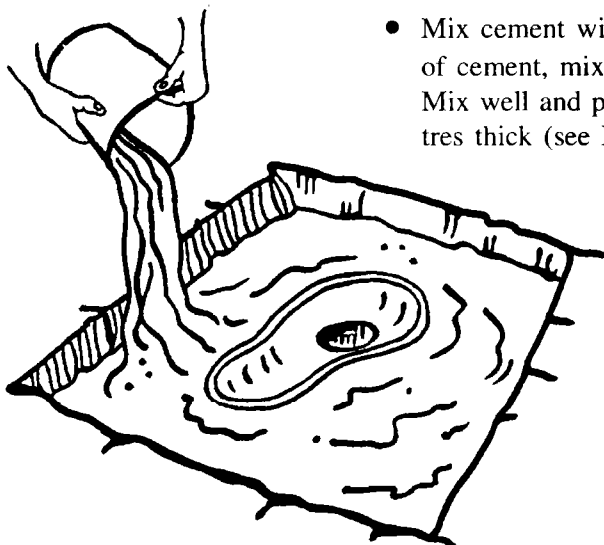

Figure 8. Laying the slab
- Mix cement with sand, gravel and water (with each shovel of cement, mix 2 shovels of sand and 4 shovels of gravel). Mix well and pour it into the pit until it is about 5 millimetres thick (see Figure 8).